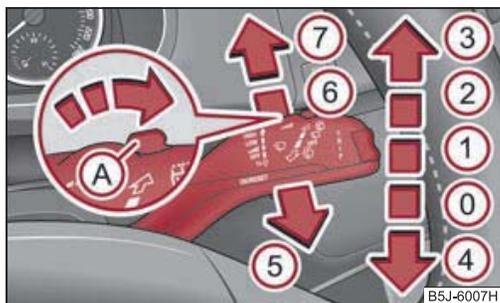

Fig. 45 Windscreen wiper lever
The windscreen wiper lever ⇒ fig. 45 has the following positions:
- Push the lever away from the steering wheel into position ⑥ ⇒ fig. 45, the windscreen wiper will operate every 6 seconds.
The headlights are being cleaned after the windscreen washer system has been operated for the fifth time, the low beam or main beam are switched on as well as the windscreen wiper lever is held in the position ⑤ ⇒ page 52, fig. 45 for about 1 second.